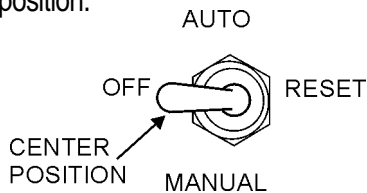

Figure 41. Off/Manual Auto Switch (OFF)
4. Place the Off/Manual/Auto Switch (Figure 41) in the "OFF/RESET" position.